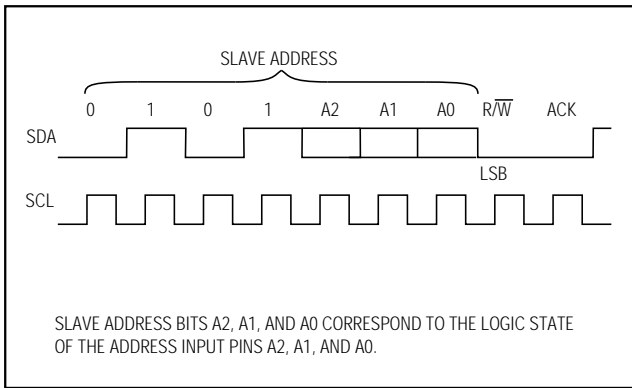
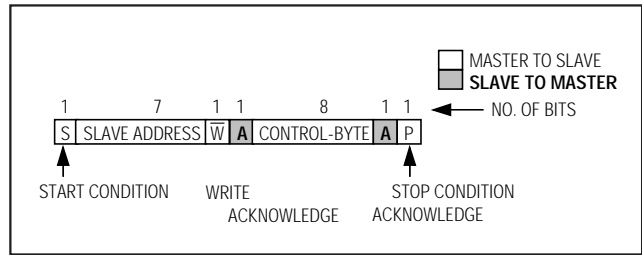
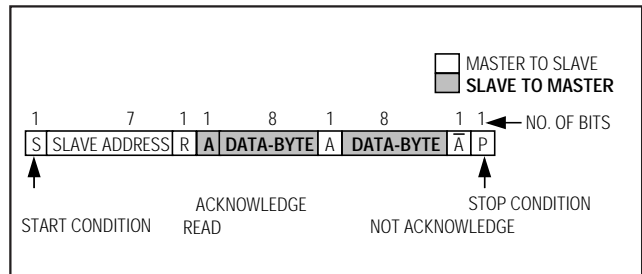
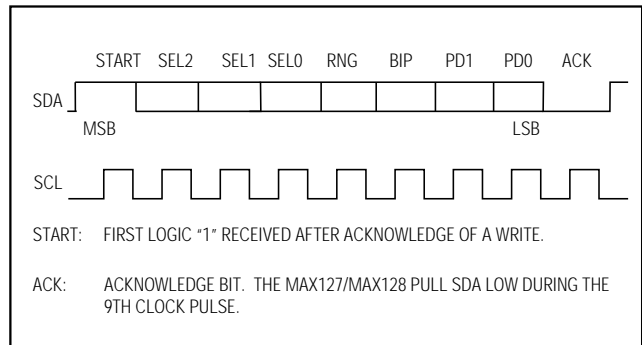

Figure 3. Address Byte
Figure 6. Write Cycle
Figure 7. Read Cycle
Figure 8. Command Byte
The MAX127/MAX128 have a 7-bit-long slave address. The first four bits (MSBs) of the slave address have been factory programmed and are always 0101. The logic state of the address input pins (A2–A0) determine the three LSBs of the device address (Figure 3). A maximum of eight MAX127/MAX128 devices can therefore be connected on the same bus at one time.
A conversion cycle begins with the master issuing a START condition followed by seven address bits (Figure 3) and a write bit ( $R/\bar{W} = 0$ ). Once the eighth bit has been received and the address matches, the MAX127/MAX128 (the slave) issues an acknowledge by pulling SDA low for one clock cycle ( $A = 0$ ). The master then writes the input control byte to the slave (Figure 8). After this byte of data, the slave issues another acknowledge, pulling SDA low for one clock cycle. The master ends the write cycle by issuing a STOP condition (Figure 6).
Once a conversion starts, the master does not need to wait for the conversion to end before attempting to read the data from the slave. Data access begins with the master issuing a START condition followed by a 7-bit address (Figure 3) and a read bit ( $R/\bar{W} = 1$ ). Once the eighth bit has been received and the address matches, the slave issues an acknowledge by pulling low on SDA for one clock cycle ( $A = 0$ ) followed by the first byte of serial data (D11–D4, MSB first). After the first byte has been issued by the slave, it releases the bus for the master to issue an acknowledge ( $A = 0$ ). After receiving the acknowledge, the slave issues the second byte (D3–D0 and four zeros) followed by a NOT acknowledge ( $\bar{A} = 1$ ) from the master to indicate that the last data byte has been received. Finally, the master issues a STOP condition (P), ending the read cycle (Figure 7).